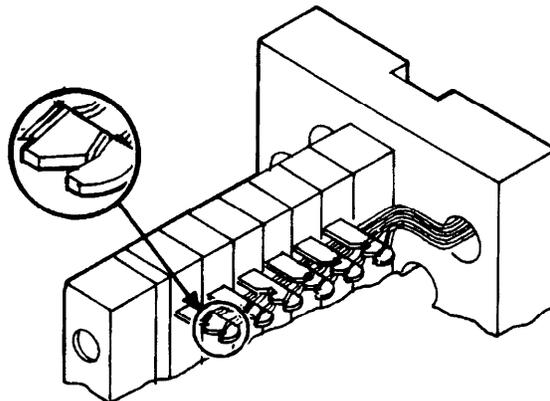

Figure 6b. Connecting 3 or 4 Wires per Pin.
5.03 When three wires are terminating on the same pin, one wire will be connected to the inside notch and the other two shall be connected to the outside notch. See Figure 6b.